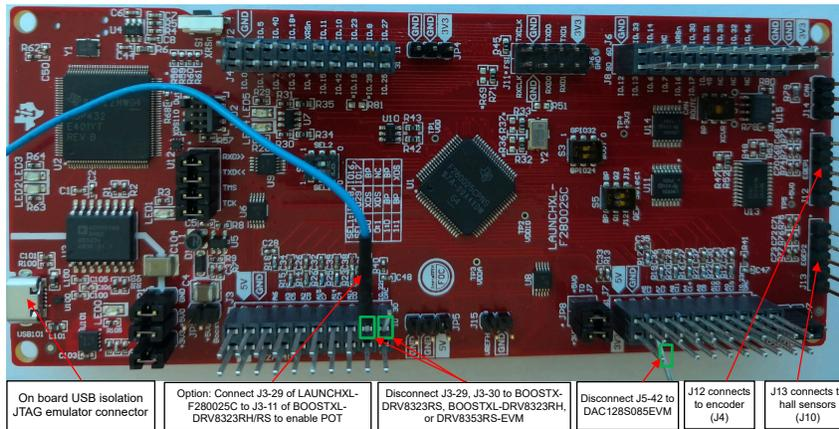

Figure 3-11. LAUNCHXL-F280025C Board Modifications For Connecting BOOSTXL-DRV Board
- Bend J3-29 and J3-30 of the LAUNCHXL-F280025C, LAUNCHXL-F280039C, or LAUNCHXL-F2800137 with 90° so that they are not connected to the BOOSTXL-DRV8323RH as shown in Figure 3-11.
The switches and connections on LAUNCHXL-F280025C as shown in Figure 3-11 can be used with the BOOSTXL-DRV8323RH, BOOSTXL-DRV8323RS, and DRV8353RS-EVMs.
- Bend J3-29 and J3-30 of the LAUNCHXL-F280025C, LAUNCHXL-F280039C, or LAUNCHXL-F2800137 with 90 degrees so that they are not connected to the BOOSTXL-DRV8323RS as shown in Figure 3-11.
- Bend J2-12 of the LAUNCHXL-F280025C, LAUNCHXL-F280039C, or LAUNCHXL-F2800137 with 90 degrees so that they are not connected to the BOOSTXL-DRV8323RS. For LAUNCHXL-F280025C and LAUNCHXL-F280039C use a jumper wire to connect J4-18(nSCS/GAIN) and J4-4 of BOOSTXL-DRV8323RS to use SPIA-STE of the C2000 device directly as shown in Figure 3-11. For LAUNCHXL-F2800137 use a jumper wire to connect J4-18(nSCS/GAIN) and J4-16 of BOOSTXL-DRV8323RS.